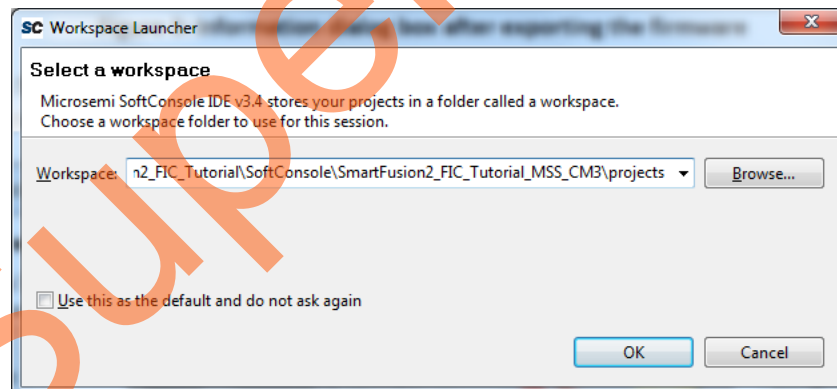

Figure 43 • SoftConsole Workspace Launcher
6. Click **Start > Programs > Microsemi SoftConsole v3.4 > Microsemi SoftConsole IDE v3.4** or double-click the shortcut icon on your desktop. The **SoftConsole Workspace Launcher** is displayed as shown in Figure 43.